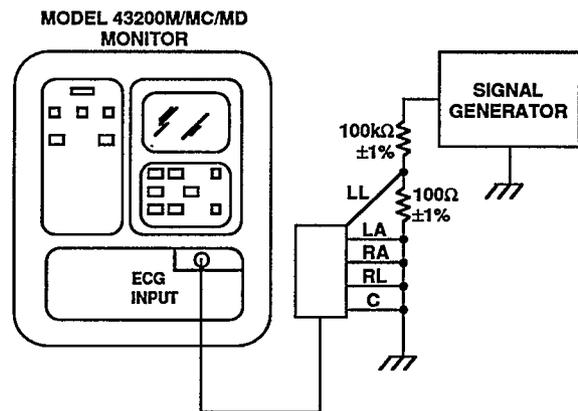

Figure 3-6. ECG Gain Adjust Test Setup.
4. Connect the Signal Generator and resistors as shown in figure 3-6.